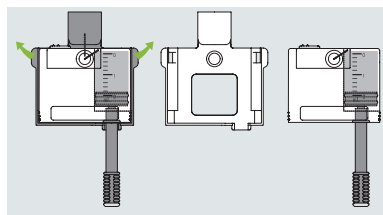

Figure 26
7. Pull the two release tabs (shown in Figure 26) away from the reservoir to release the fill adapter.